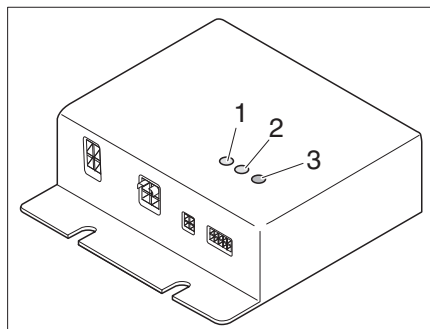

Fig. 332 Control unit
The control unit (Fig. 332) is installed in the wardrobe. The control lamps on the control unit have the following meanings:
- The indicator LED (Fig. 332,1) HC1 lights up in green: Heating circuit 1 is operating
- The indicator LED (Fig. 332,2) HC2 lights up in green: Heating circuit 2 is operating
- Fault LED (Fig. 332,3)